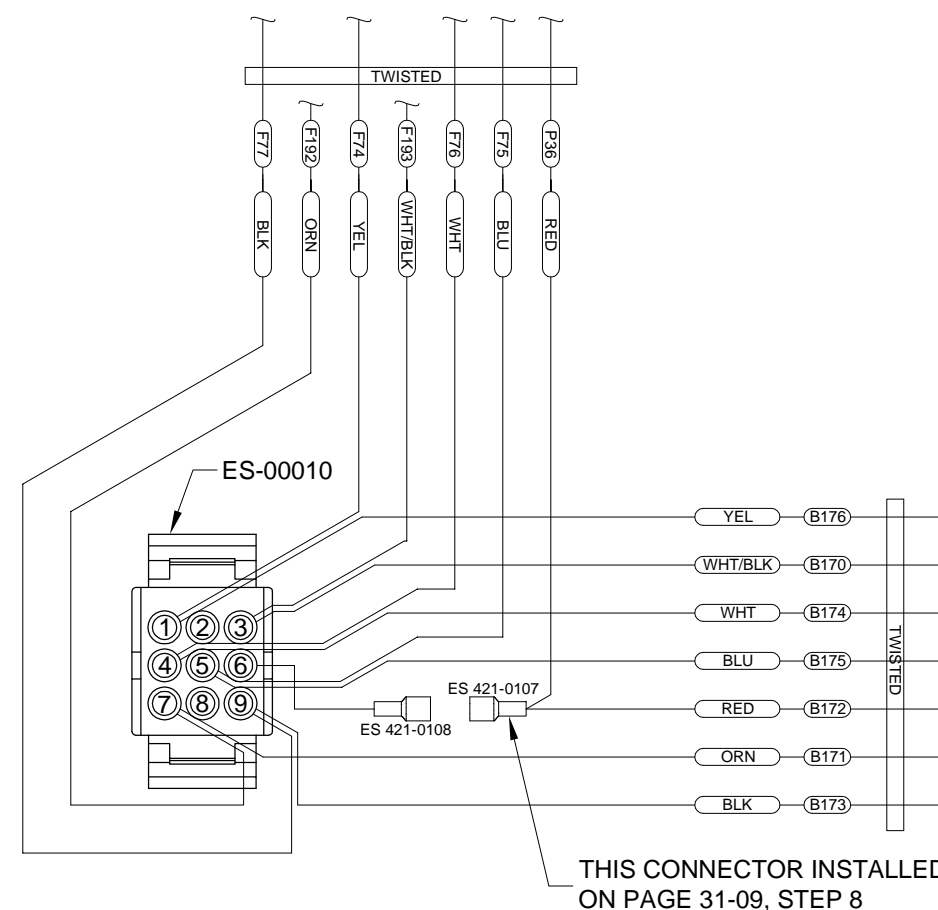

FIGURE 2: WH-RV12-OPTIONAL & WH-B170 CONNECTION TO PITCH SERVO
Step 6: Insert the six WH-RV12-OPTIONAL/WH-B170 Autopilot Harness wire pairs into an ES-00010 Molex Plug, 9 Position as shown in Figure 2. Numbers identifying the wire positions are molded into the back of the connector.
Insert the Molex pin end of the wire into position 6 of the ES-00010 Molex Plug, 9 Position as shown in Figure 2.